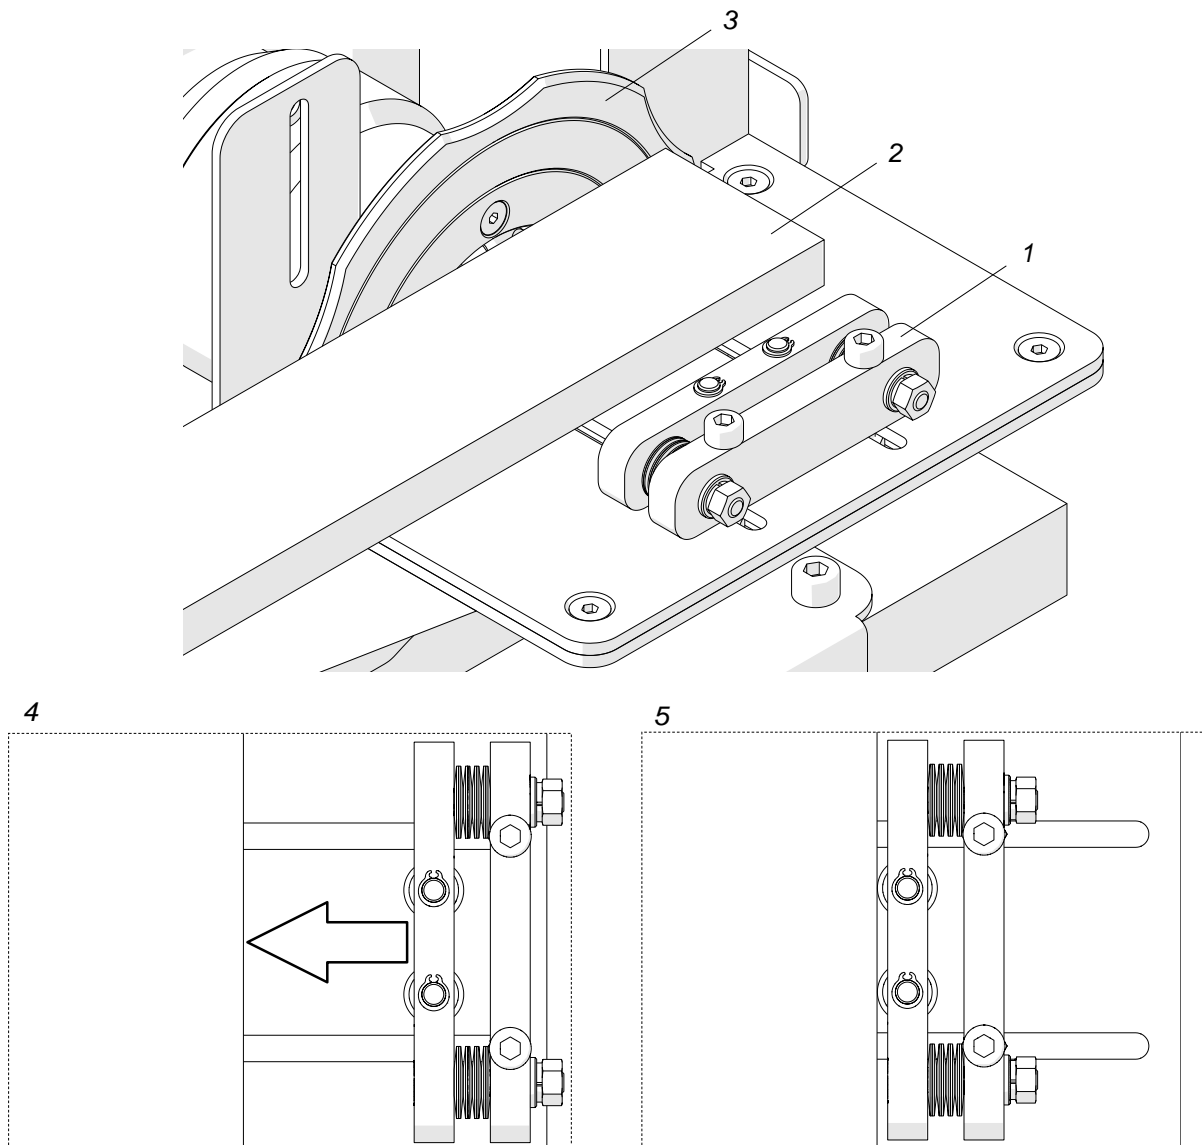

Fig. 13. Adjusting the horizontal clamp
Use the 5mm hex wrench to loosen the horizontal clamp (1, Fig. 13), and then place the workpiece (2) so that it makes contact with the guide (3). Next, move the horizontal clamp toward the workpiece (4) and tighten the screws in this position (5).